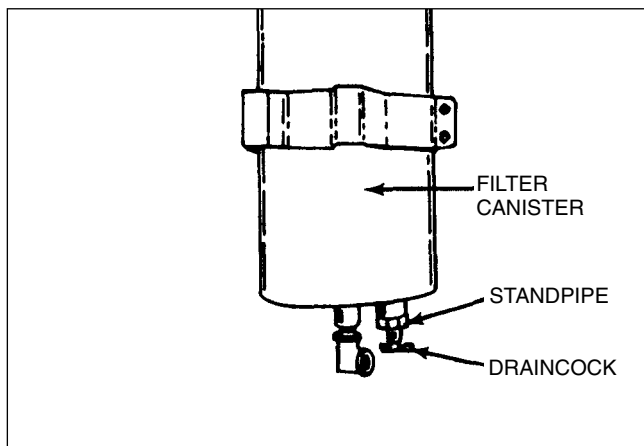

FIGURE 4-2, Draincock
5. Open Draincock on bottom of Filter Canister and drain about one quart (about one liter) of coolant to prevent spillage when removing filter element (see Figure 4-2). Close Draincock and, if used, return sediment tray to machine reservoir.